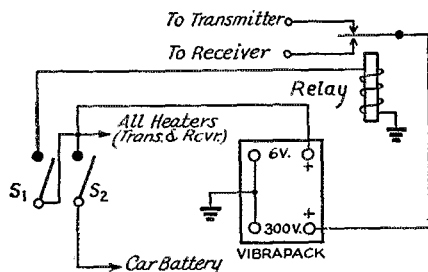

Fig. 2 — Wiring diagram of the control system.
With a remotely-controlled transmitter, or with carbon-plate modulator tubes which do not show a change in color when the dissipation is above normal, a separate bias supply for the modulator tubes would be desirable for complete protection, since the bias would be the same with or without excitation to the r.f. stage. It is not necessary to forego the use of a small, cheap supply. The diagram shown in Fig. 2-A is such a circuit. It is important to notice the differences between this circuit and the conventional bias supply shown at B. They explain why a light supply of this design can be superior to a heavy supply of wrong construction. The pi-section filter is primarily intended to keep the bias voltage at the
Fig. 2 — Recommended circuit for Class-B modulator bias supply (A) compared with conventional supply (B).  $C_1, C_2$  — 8- $\mu$ fd. electrolytic.  $C_3$  — 30- $\mu$ fd. electrolytic.  $R$  — Adjusted to cause rated output current of transformer to flow.  $L$  — 5 henrys, 120 ma.  $T$  — According to requirements; see text.